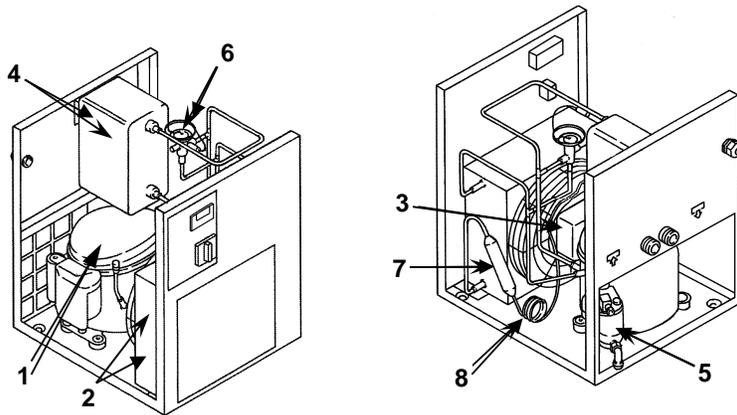

FIG. 8
- Clean the condenser fins Ref. 2 with compressed air (Fig. 8) **DO NOT USE WATER OR SOLVENTS**